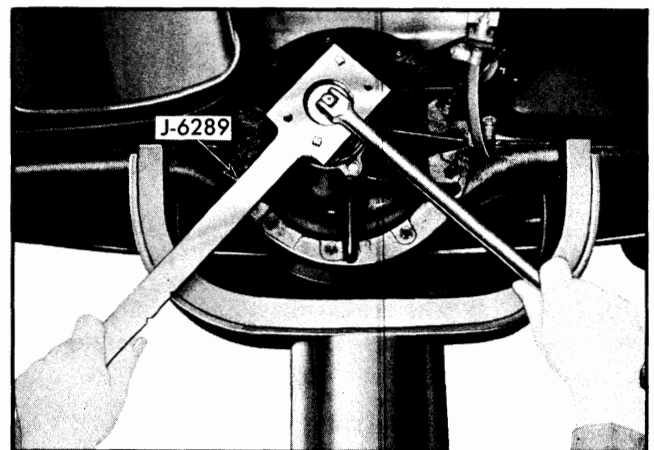

Fig. 4-9 Holding Companion Flange with J-6289
4. Hold companion flange with tool J-6289 (Fig. 4-9) and remove drive pinion nut and washer using heavy duty socket.